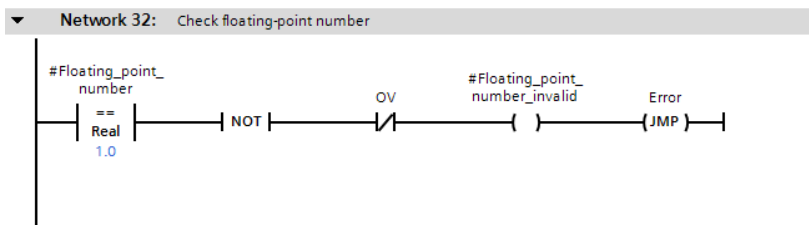
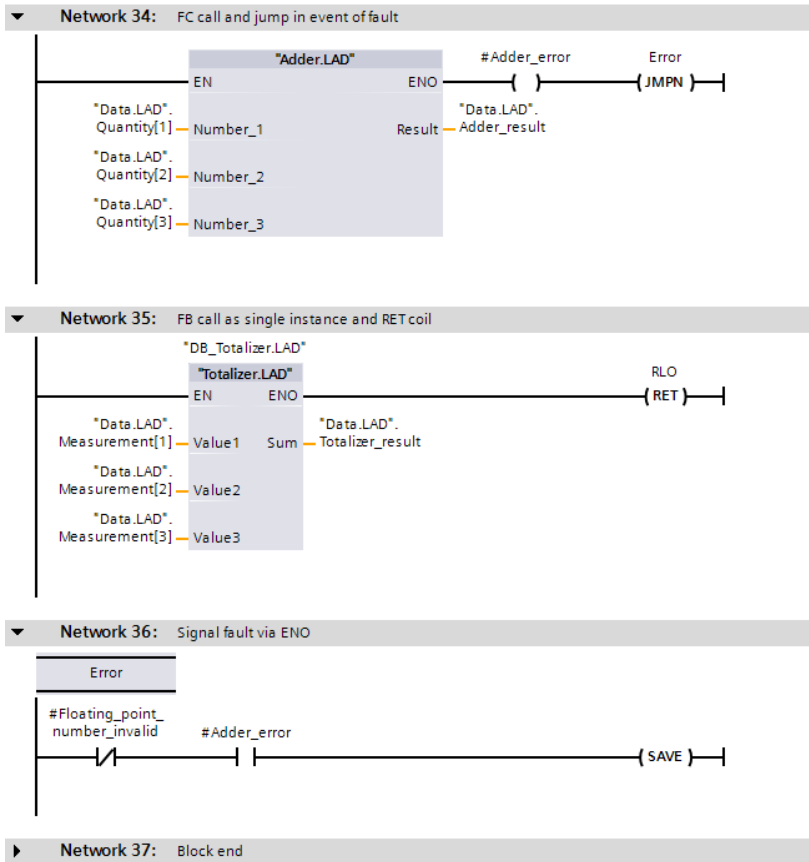

Fig. 7.31 Example of scanning a status bit with LAD
Fig. 7.34 Examples of functions for program flow control in the ladder logic
Example: In Fig. 7.31, a floating-point number is checked for validity. To do this, the tag is compared with any floating-point constant. The type of comparison does not play a role here. If the floating-point number is invalid, the comparison is incorrect in all cases and the status bit OV (overflow) is set. Thus if the comparison is incorrect and the overflow bit is set, the intermediate memory *#Floating_point_number_invalid* is set and the JMP (jump) to the *Error* label is carried out.
You can control the ENO output of the block with the SAVE coil if you call the coil in the last network of the block. In the example in Fig. 7.34 on page 312, the error messages are collected in the last network of the block: *#Floating_point_number_invalid* (error with “1”) and *#Adder_error* (error with “0”). The logic operation must not be fulfilled with an error; in this case signal state “0” is transferred by the SAVE coil to the ENO output.
Example: In Fig. 7.34 on page 312, in the first network the `#Adder_error` tag is set to signal state “0” in the event of an error in the “`Adder.LAD`” block, and a jump is made to the `Error` label. The jump label `Error` is present in the last network of the block. The binary result BIE, and thus also the ENO output of the current block, are set to signal state “0” here by means of the SAVE coil.
Fig. 7.31 on page 308 and Fig. 7.34 show examples of the jump functions. In the first example, a jump is carried out by means of a JMP coil to the *Error* label upon a result of logic operation “1”. In the second example, a jump is also carried out by means of a JPMN coil to the *Error* label upon a result of logic operation “0”.
In the second network in Fig. 7.34, the block with the RET coil is left if the “*Adder*” block does not signal an error.
The top network in Fig. 7.34 shows the call of a function (FC). The function name is present as the title in the call box. In the event of an error in the block (ENO is then “0”), #Adder_error is set to “0” and a jump made to the network with the *Error* label. In the next network, the call of a function block is present as a single instance. The name of the function block is present as the title in the call box, the instance name – in this case the name of the instance data block – is present above the box.